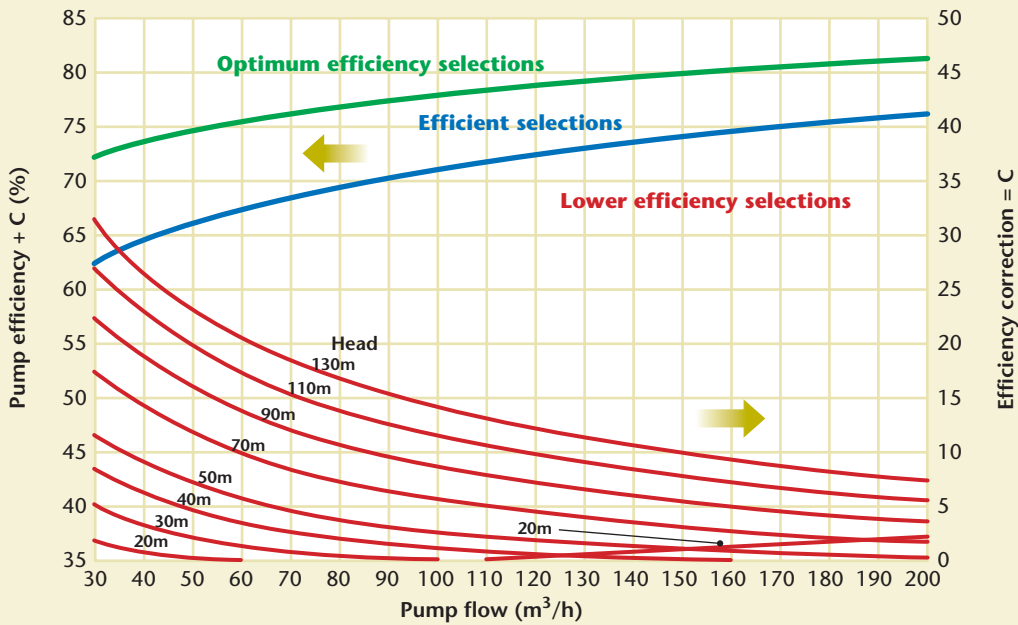

Figure 3: Efficiencies of end suction pumps with their own bearings at 2900 rpm.
Performance curves published in manufacturers' catalogues have been used to produce six plots (Figs 3 to 8). The upper pump efficiency line on each plot shows the 'Catalogue mean of best-efficiency points' at maximum impeller diameter, after correcting for pump head.
5. Enter your chosen flow and head on the plot that suits the quotes (Figs 3 to 8).
From Fig 3: 'C' = 14.
Plot on Fig 3: 'Pump Efficiency + C' = 60 + 14 = 74%.
Fig 3 suggests that an additional 3 points of efficiency or more is possible.
Correction 'C', as shown on Figs 3 to 8, is based on pump flow, head and speed. It is actually a correction for pump Specific Speed. Pumps of relatively low head and high flow (high Specific Speed) or high head and low flow (low Specific Speed) lose efficiency due to unavoidable secondary hydraulic losses. Within *Ref 2* there is a curve to allow efficiency correction for Specific Speed. This is actually the correction proposed by Anderson (*Ref 3*). Alternative curves to correct for Specific Speed can be derived from *Ref 4* and *Ref 5*.